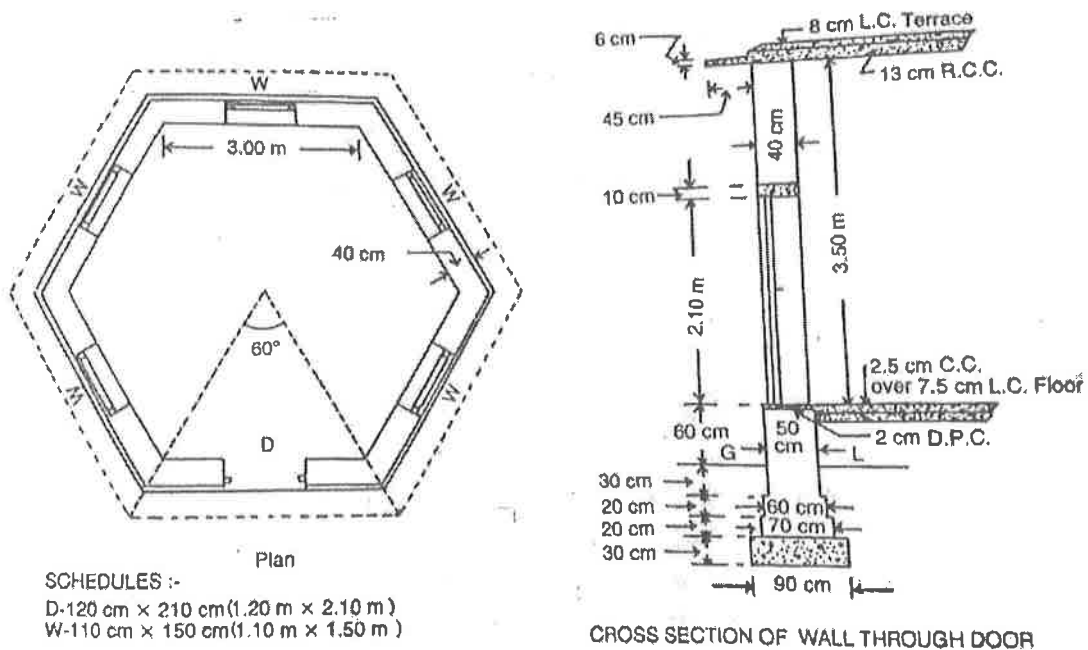

Figure 2 :HEXAGONAL ROOM
- (b) From figure 2, estimate the quantities of
- (i)Earthwork in excavation (3)
- (ii)2cm damp proof course (3)
VII For the hexagonal room shown in figure 2, estimate the quantities of following items.
VIII For the hexagonal room shown in figure 2, estimate the quantities of following items.